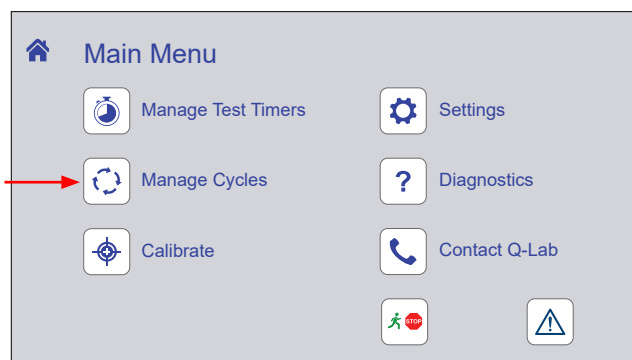

Figure 8.7.1a: Manage Cycles icon.
- On the Main Menu screen touch the Manage Cycles icon (Figure 8.7.1a) to display the Manage Cycles screen.